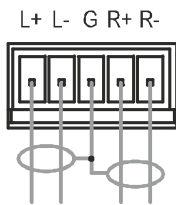

Figure 3: Balanced Stereo Audio Connection
- A balanced stereo audio connection, see Figure 3